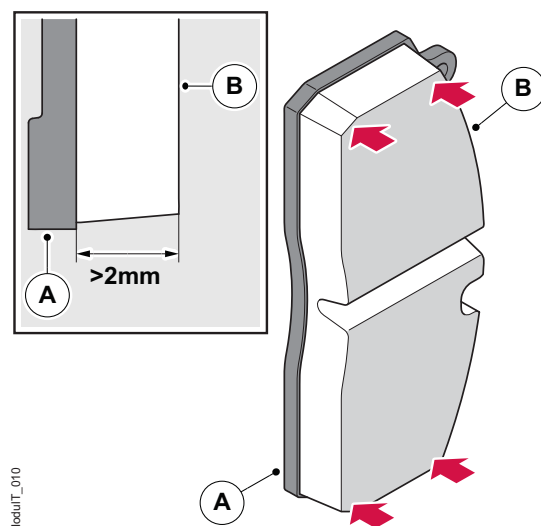

Figure 15. Measuring the pad wear condition
5. On both brake pads measure the distance from back plate (A) to wear surface (B) of the brake pad in four places, see figure 15. Minimum permitted lining thickness (friction material) is 2 mm.
6. Check the condition of the back plate (A).